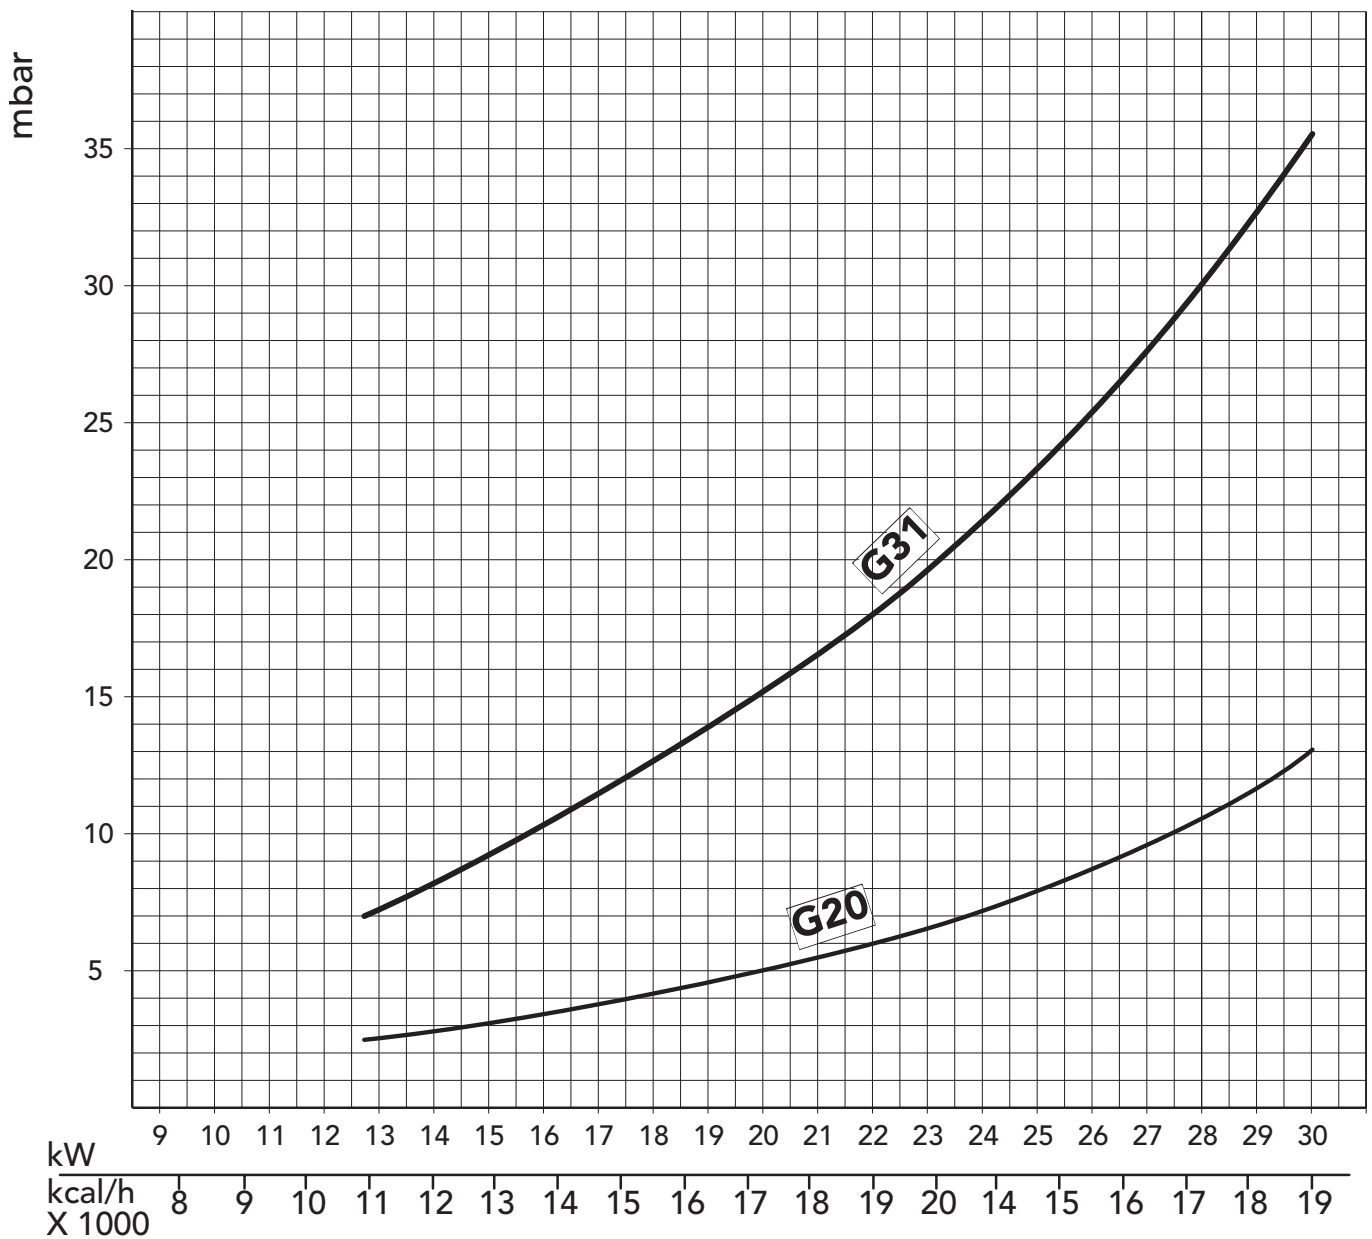

Fig. 4
N.B. - **The gas pressures at the burner and gas flows during the central heating phase given in the table refer to nominal boiler output. To reduce this output (where necessary), gas pressure must be reduced until the required output level is reached (see figures 4 and 5).**
To adjust boiler heat input (thus also regulating heat output to the central heating water) simply adjust the main burner via the electronic control board (fig. 4 and see paragraph 5.04).